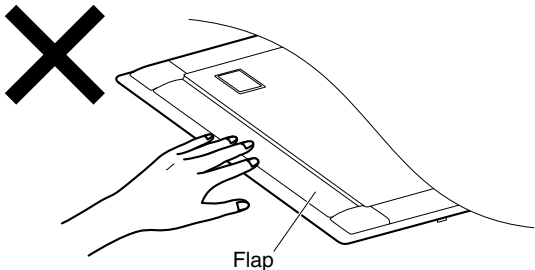

Fig. 3-71
- Do not apply excessive force to the flap. (Fig. 3-71)